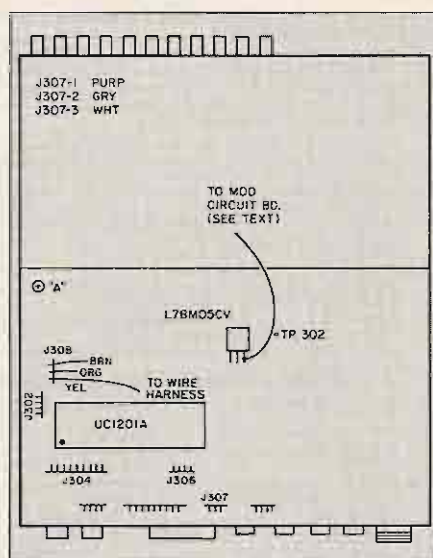

Figure 1. The opened HR2510. Front panel faces down.
1. The ground wire of your circuit board (IC pin 1,6,7, etc.) is routed along the left edge of the chassis and fastened under the screw at point A. (Figure 1)
2. The voltage supply wire (IC pin 14, etc.) is routed toward the center and to the L78M05CV regulator. Carefully solder to the right hand lead as shown in Figure 1.
5. Refer to Figure 1 and locate J308 with the brown, orange and yellow wires attached. About 1 inch from the connector, cut the brown and orange wires. This will allow easy restoration of the HR2510 to its original configuration.